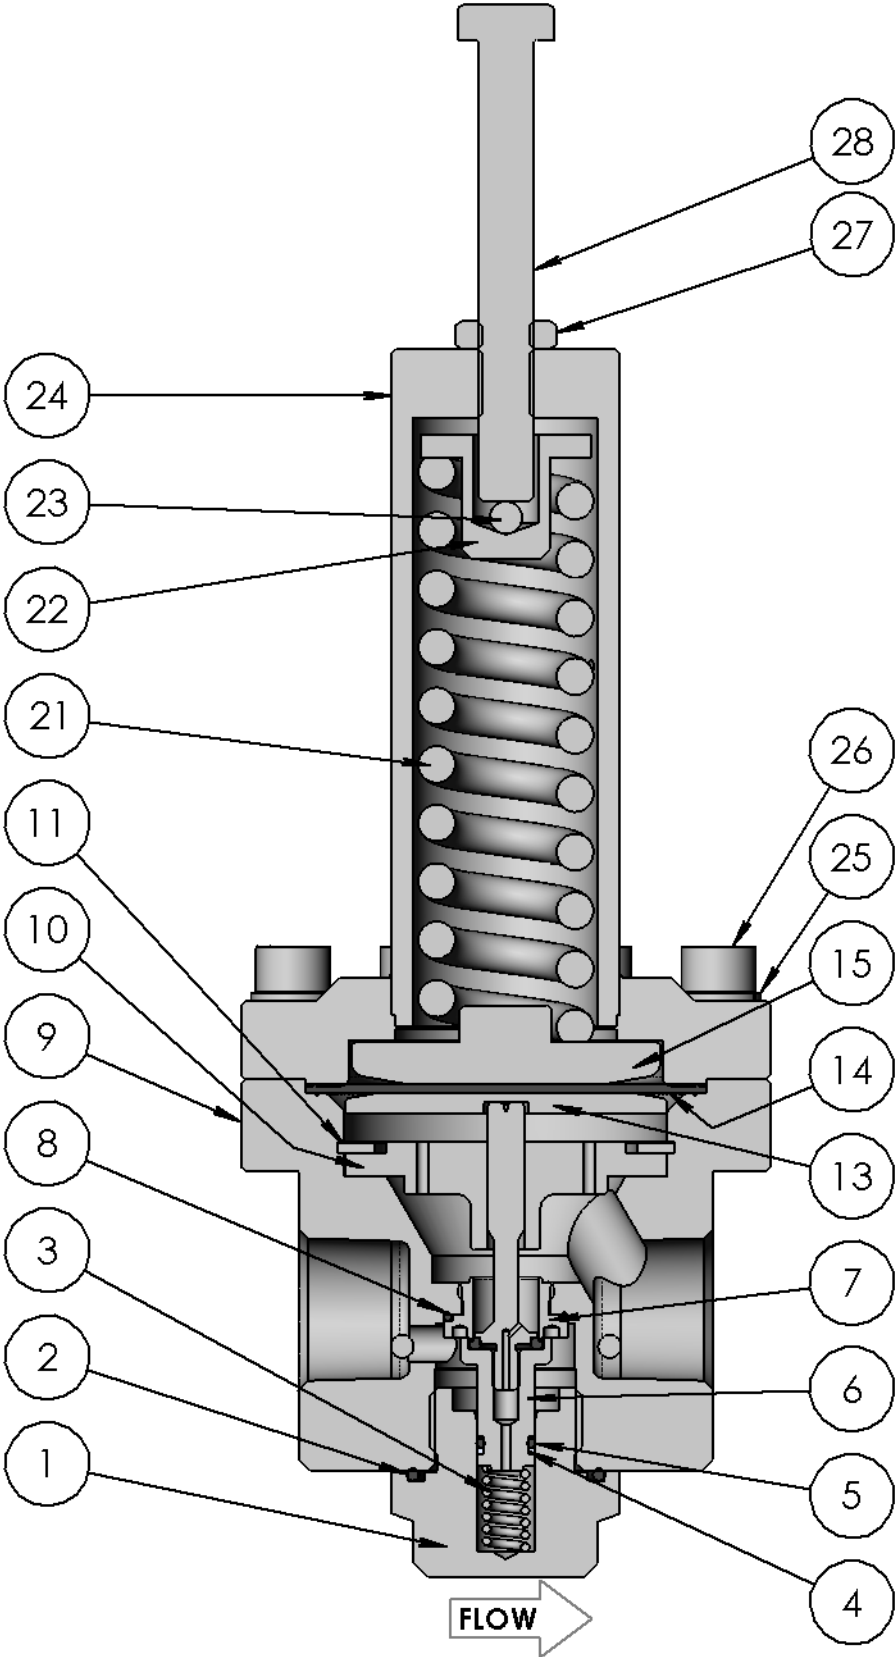

Fig 2
1. Fit the body plate (10) into the body (9) and retain with the retaining ring (11).
2. Fit the Seat O-ring (8) into the body (9) and ensure that it is seated all the way round.
3. Lightly lubricate the seat threads (7) then insert the seat (7) into the body (9) using the seat insertion tool.
4. Torque the seat (7) to 7 lbf·ft (10 N·m). Take care not to pinch the seat O-ring (8) or damage the seat (7) with the tool.
5. Fit the poppet O-ring (5) and, if present, backup ring (4) onto the poppet (6). Ensure they are oriented correctly per Fig 2.
6. Lightly lubricate the poppet O-ring (5) then insert the poppet (6) through the seat (7) and body plate (10). Take care not to damage either the seat (7) or poppet (6).
7. Place the poppet spring (3) onto the poppet (6).
8. Fit the body plug O-ring (2) onto the body plug (1) and lightly lubricate the body plug threads.
9. Screw the body plug (1) into the body (9) over the poppet spring (3). Torque to 37 lbf·ft (50 N·m).
10. Place the diaphragm plate (13) onto the poppet (6).
11. Place the diaphragm (14) onto the diaphragm plate (13) and locate it in the body (9).
12. Place the bottom spring guide (15) centrally onto the diaphragm (14).
13. Fit the ball (23) into the upper spring guide (22) and retain in place.
14. Place the set spring (21) and spring guide (22) onto the bottom spring guide (15).
15. Lightly lubricate the cap screws (26). Fit the spring housing (24) over the spring (21) and secure with the cap screws (26) and washers (25).